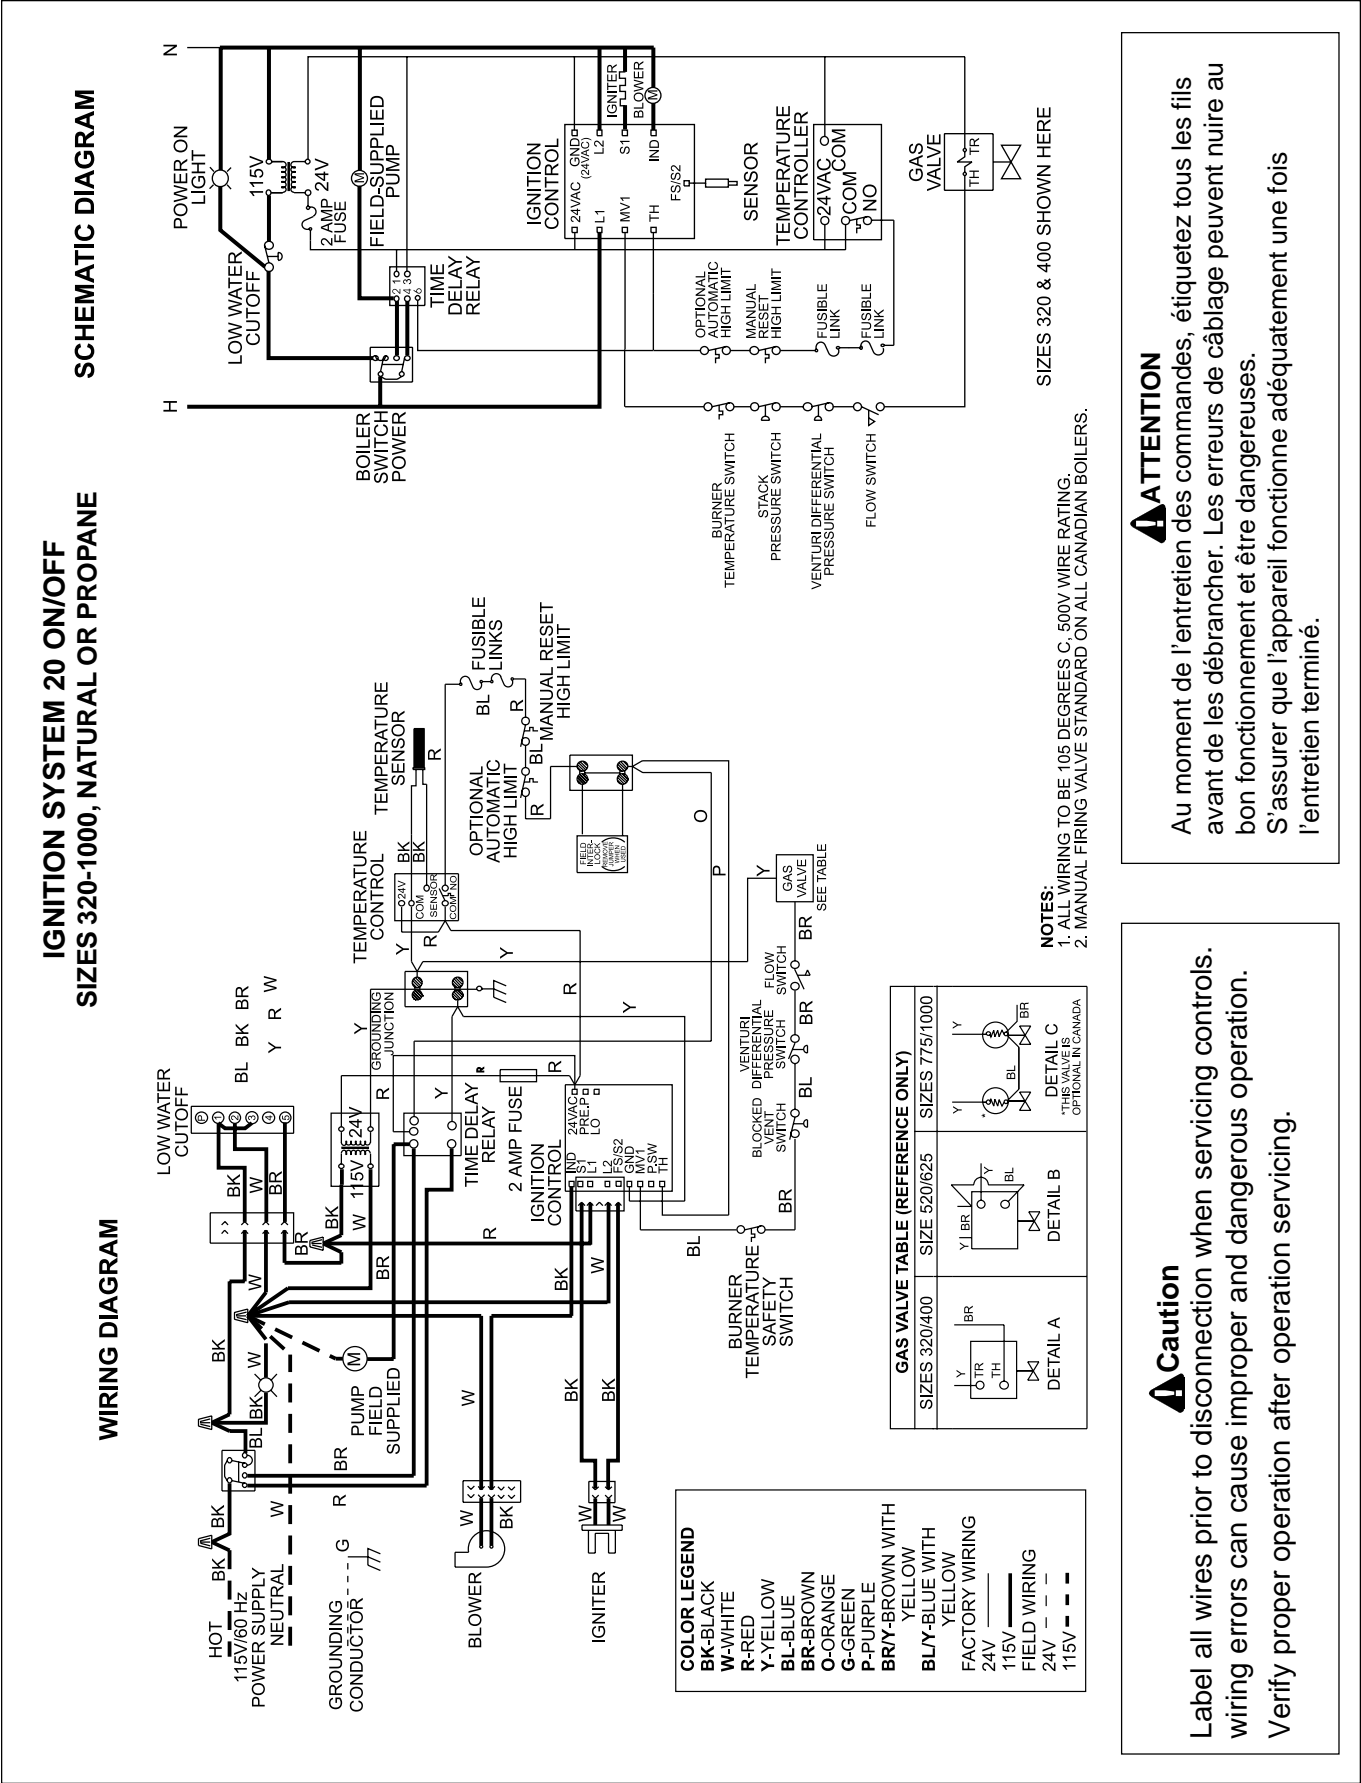

Figure 12. Wiring Diagram.
2. Wire the boiler and pump exactly as shown in the wiring diagram supplied with the boiler (see Figure 12).
4. Connect all field-installed devices (relays, timers, temperature devices, etc.) to the boiler wiring at points labeled “Field Interlock” (see Figure 12).